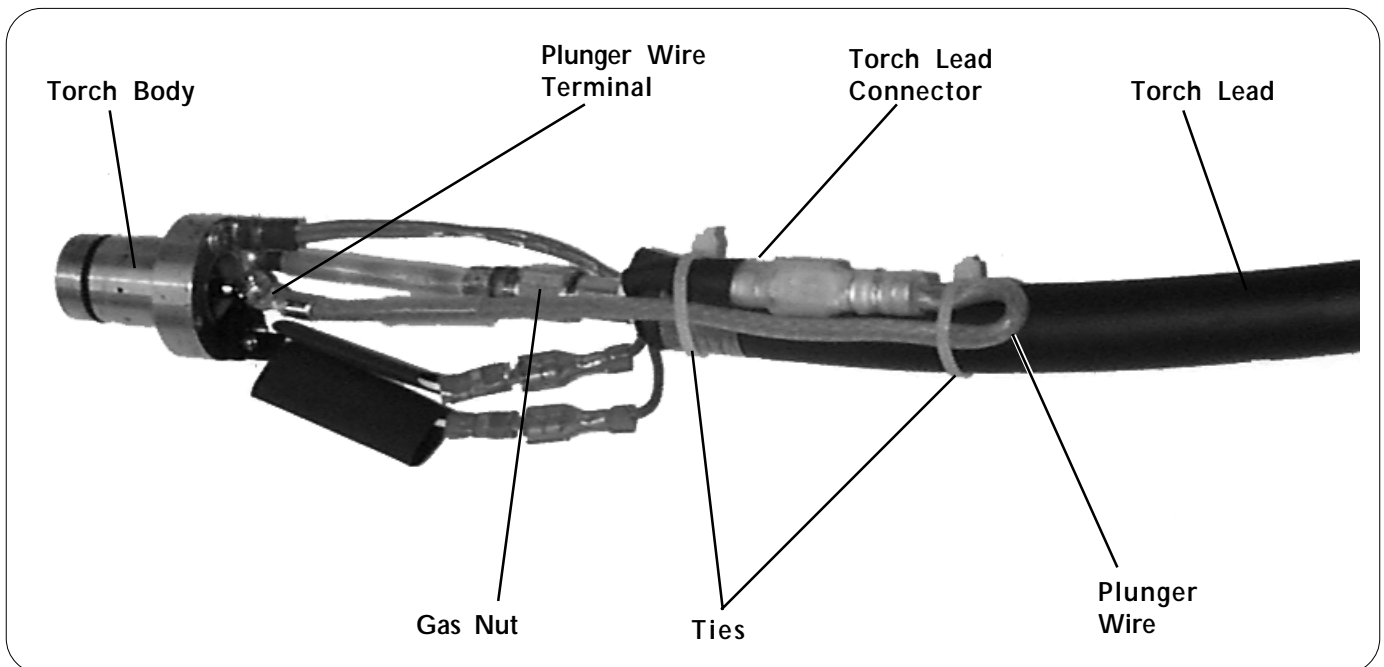

Figure 2 PAC121M/40cs Plunger Wire - Install
6. Tie the plunger wire back on the torch lead as shown in Figure 2. With the ties in place and snugged down, adjust the wire so that there is 1/4 inch (6 mm) of slack between the wire and the gas nut. Tighten and trim ties.